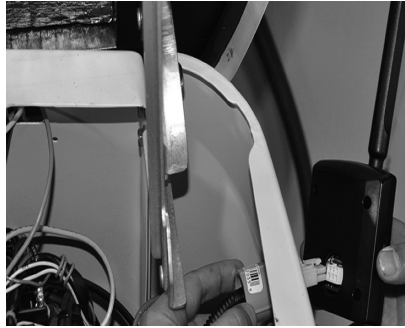

Figure 3-10. Plug Harness Into Mobile Link Unit
14. Insert the six pin connector into the Mobile Link unit. See Figure 3-10. Connector will only fit one way. DO NOT force into place.